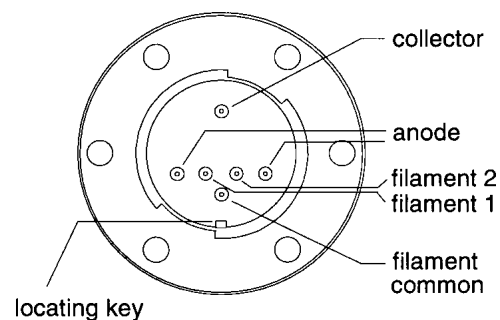
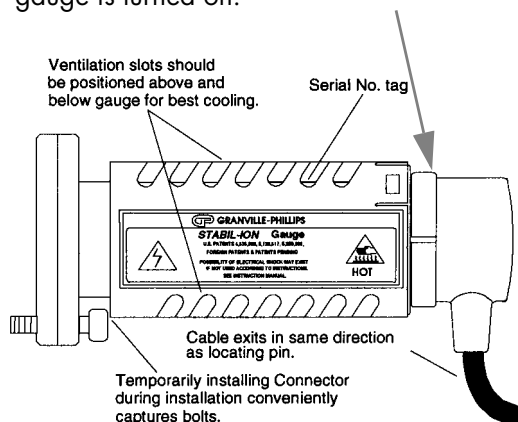

Figure 3-1 Stabil-Ion Gauge Pin and Locating Key Locations
Figure 3-2 Stabil-Ion Gauge with Connector and Guard
- Any mounting orientation may be used. However, to minimize the possibility of excessive temperature at the electrical connector when degassing, it is best not to install the Stabil-Ion Gauges with the electrical connector above the gauge. If it is necessary to install the gauge with the connector on top, degas time must be limited to 10 minutes/hour. See Section 4.3.4.2 on page 4-12. When mounting horizontally, the ventilation slots in the Guard will be oriented for best cooling if the gauge is installed with the locating key in the pin guard on the bottom. See Figure 3-1 and Figure 3-2. Note in Figure 3-2 that the cable will exit in the direction the locating key is oriented.